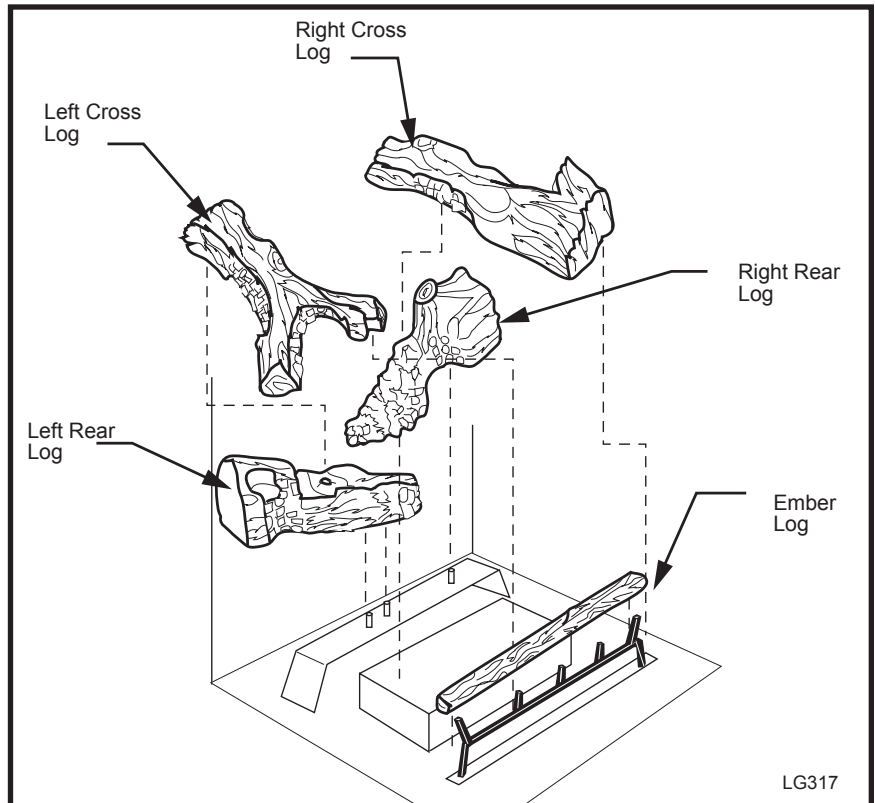

Fig. 11 ODGSR36 log placement.
2. Place left rear log on rear log support. Ensure that log is firmly positioned and there is no side-to-side movement. (Figs. 11 & 12)
3. Carefully place Ember Log between grate and burner. (Figs. 11 & 12)
5. Place the top logs onto the locator notches. Ensure the logs are secure. (Fig. 11 & 12)